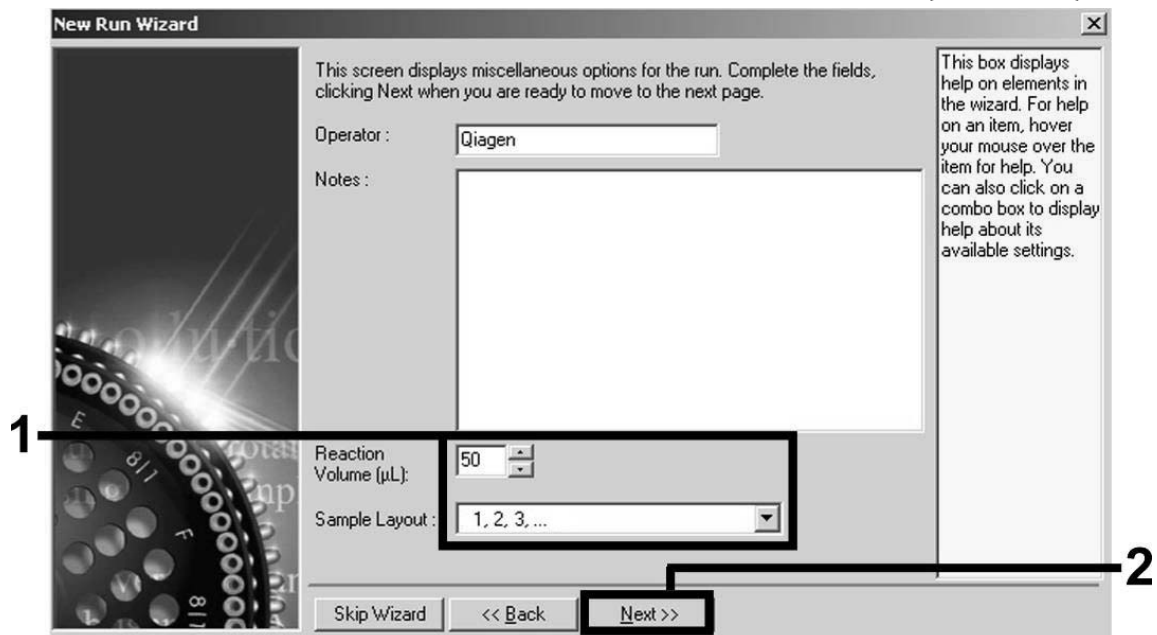

Figure 2. Setting the general assay parameters.
7. Select 50 for the PCR reaction volume and click “Next” (Figure 2).